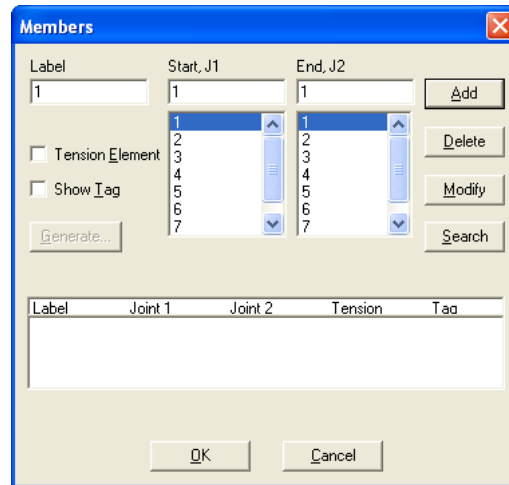

Figure 3-23 Members dialog box
- From the **Process** menu, select **Members**. The dialog box Figure 3-23 appears.